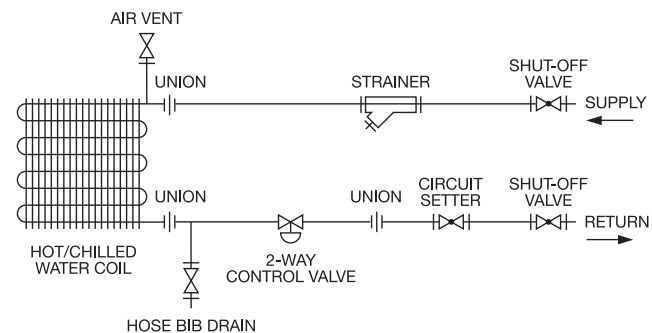

Fig. 24 — Installing Piping
2. Install pipe unions and shutoff valves in lines to and from each coil to allow maintenance or replacement of unit without shutting down and draining entire system. See Fig. 24.